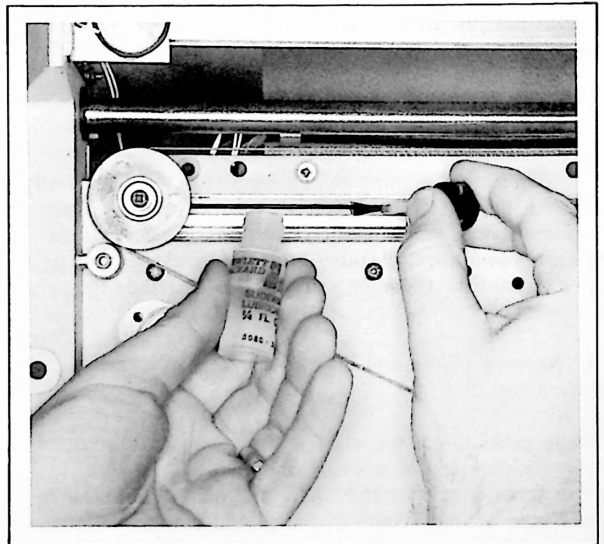

Figure 5-2. Potentiometer Lubrication
f. After cleaning, lubricate sparingly with furnished Slidewire Lubricant, Part Number 5080-3635. Do not allow lubricant to get on drive cable. See Figure 5-2. This will reduce wear and chemical contamination.